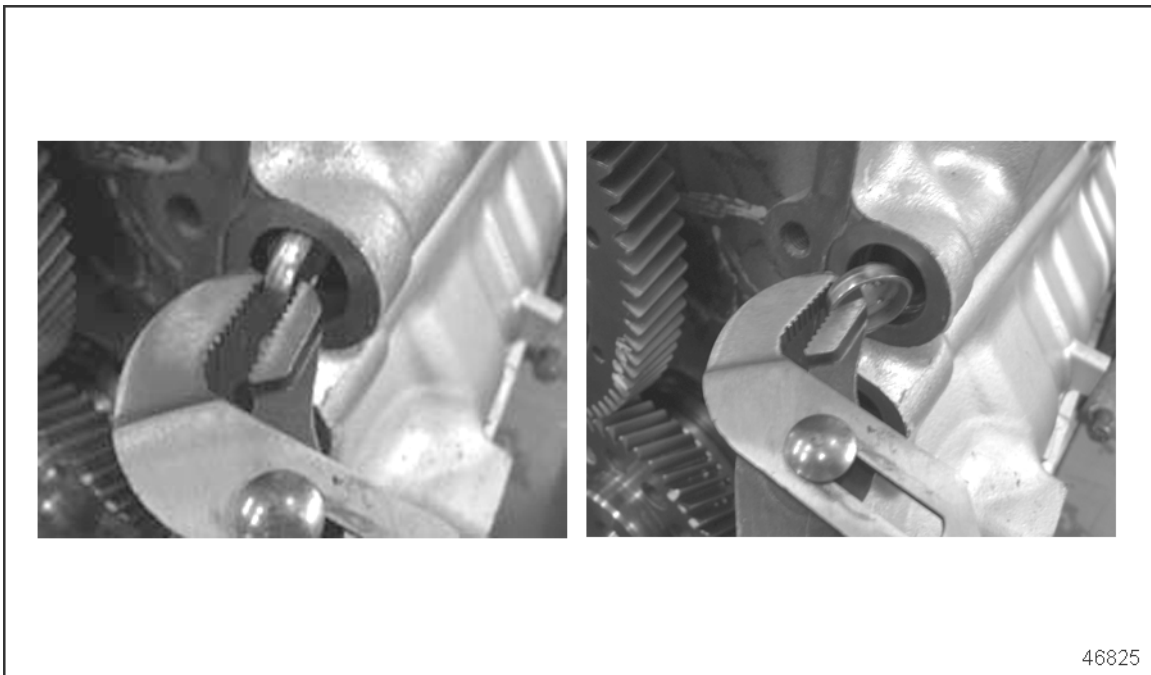

Figure 4 Attaching and Removing Plugs with Pliers
- b. After turning the plug sideways, use pliers to grab the cup plug as shown in Figure 4.
- c. Carefully pull the cup plug from the engine block as shown in Figure 4.